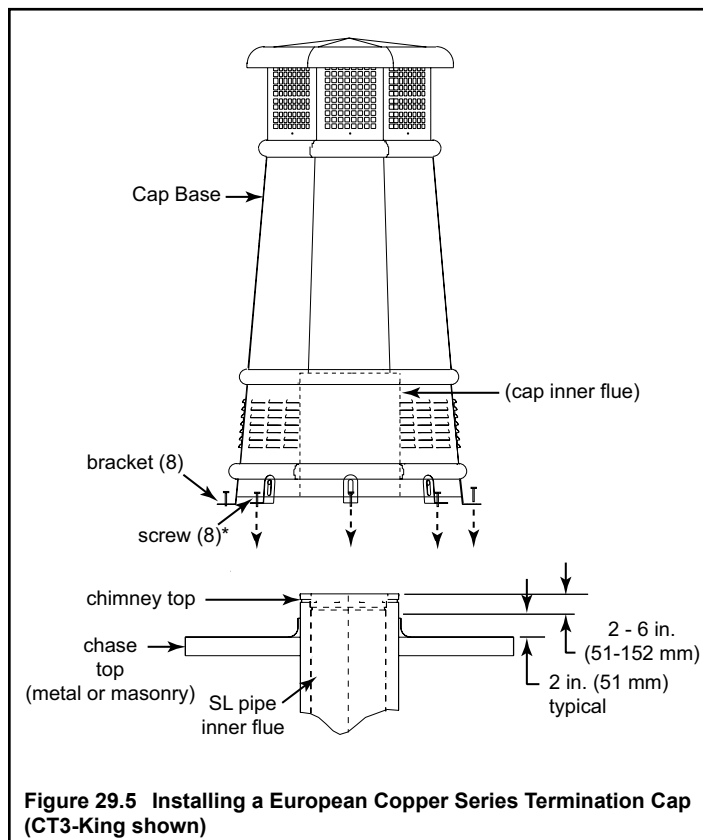

Figure 29.5 Installing a European Copper Series Termination Cap (CT3-King shown)
- For installations utilizing a European Copper Series Termination Cap, See Figure 29.5.